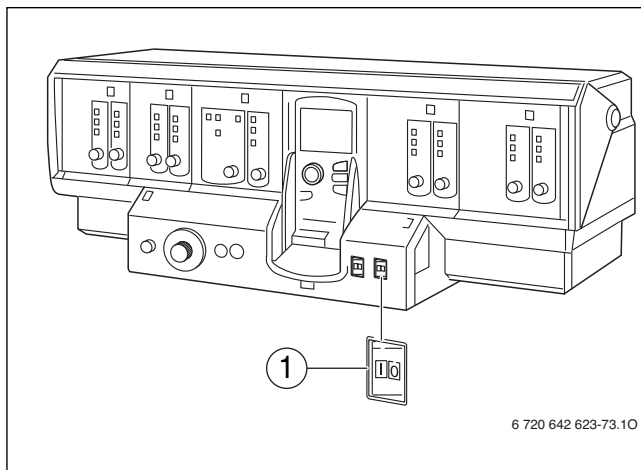

Fig. 70 Logamatic 4311 shown as an example
- ▶ Put the main power switch (→ Fig. 70, [1]) on the control panel in position "0".